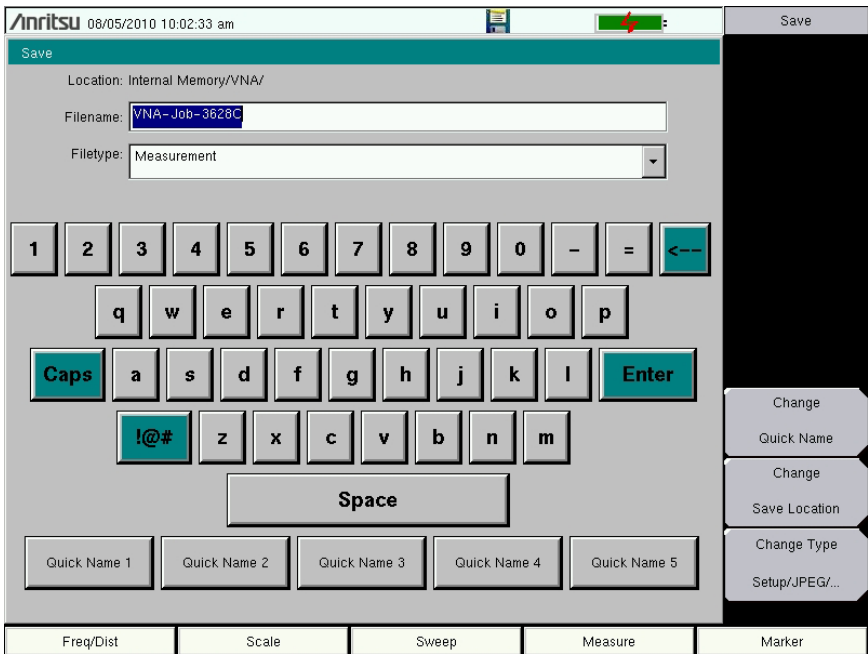

Figure 4-1. Save Dialog Box
The **Save Measurement As** key is used to quickly save measurements with a specific file name. The LMR Master saves the measurement with the latest file name that was used to save a measurement and with a number that is automatically incremented and appended to the end of the file name. For instance, if the last measurement was saved with the name *System Return Loss*, **Save Measurement As** saves the next measurement as *System Return Loss_1*, *System Return Loss_2*, etc. The file name used can be changed using the **Save** dialog box (Figure 4-1).
The save dialog box (Figure 4-1) is used to store files on the internal memory or an external flash drive. The file type, file name, and save location are set starting with this display. Refer to “Save Menu” on page 4-9 and “Save Location Menu” on page 4-10 for details.
Quick Name keys (located below the keyboard in Figure 4-1) allow you to enter quick names for frequently used parts of file measurement names. To edit the keys, press the **Shift** key, then the **File** (7) key. Press **Save** then the **Change Quick Name** key, and select one of the Quick Names for editing. Press **Enter** and enter the new name for the key. Press **Enter** again, and the new name is displayed on the Quick Name key.
Change Quick Name	Change Quick Name: Press this submenu key to change the Quick Names that are displayed at the bottom of the touch screen keyboard (Figure 4-1). Select the Quick Name to edit and press Enter . Type the new Quick Name and press Enter again. The new Quick Name is displayed on the corresponding Quick Name button below the keyboard.